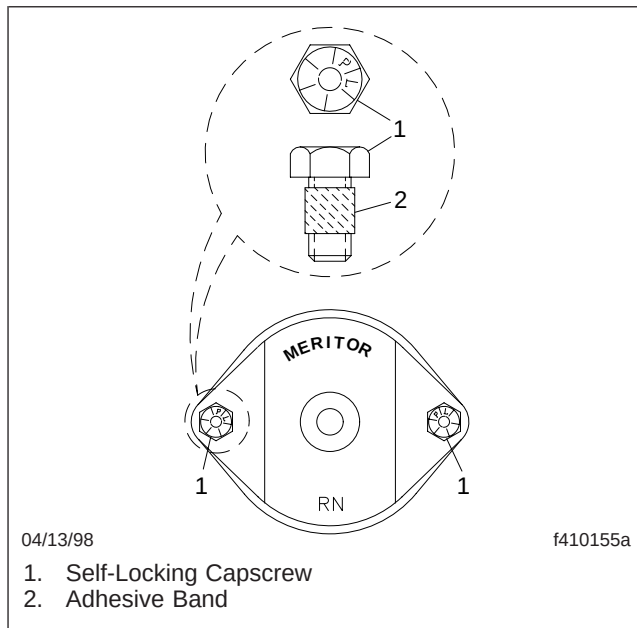
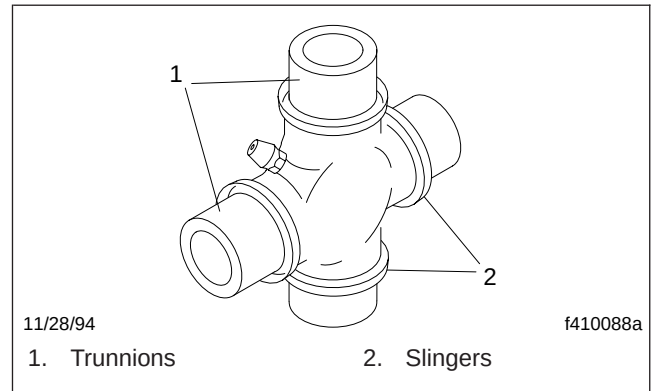

Fig. 1, Meritor U-Joint Fasteners for Full-Round Yokes
Fig. 2, U-Joint Cross
See Fig. 1 and Fig. 2 for driveline configuration.
3. Remove and discard all four bearing-plate self-locking capscrews. See Fig. 1.
IMPORTANT: If the U-joint will be reinstalled, use care not to nick the cross trunnions or damage the slingers. See Fig. 2.